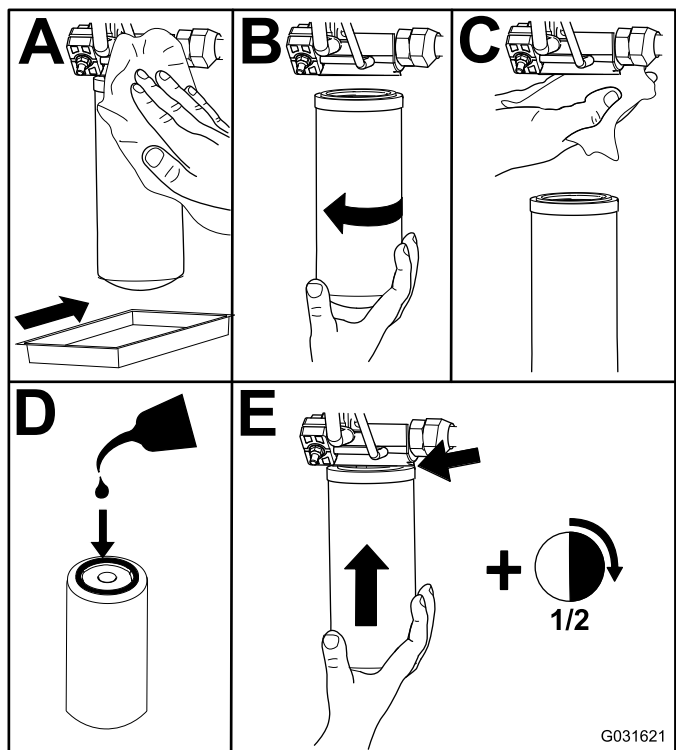

Figure 97
2. Replace the hydraulic filters (Figure 97).